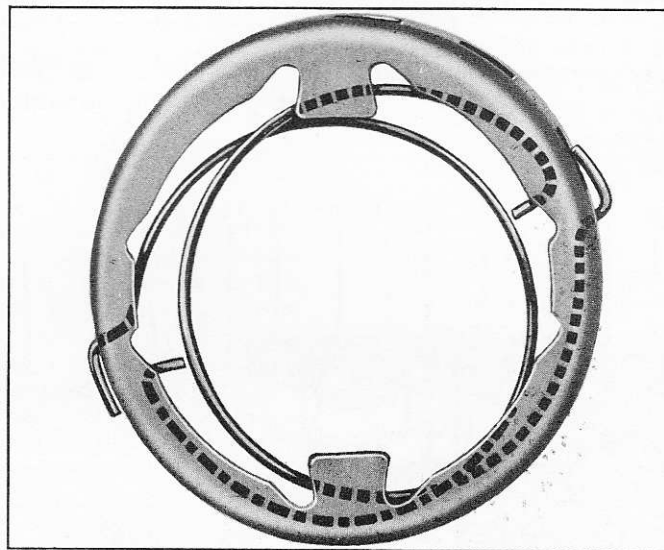

Fig. 16B—Installation of Cam Roller Retaining Springs
5. When installing springs be sure both springs are coiled in the same direction (clockwise when looking toward flanged end of retainer), with "S" end of springs hooked into holes in retainer (fig. 16B) and opposite ends hooked into holes in cam.
7. If free wheeling cam and roller retainer were separated, assemble these parts by positioning springs so both are coiled clockwise when looking at flanged end of retainer (fig. 16B), then place retainer over slotted end of cam, hook free ends of springs in holes in cam, turn retainer clockwise and push springs into place around cam.